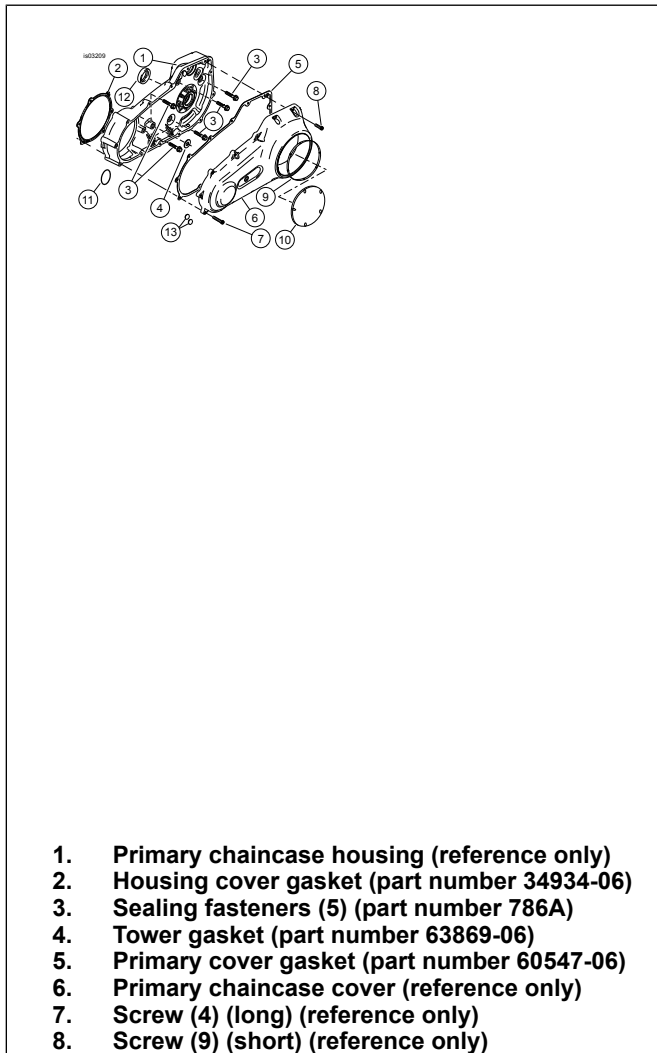
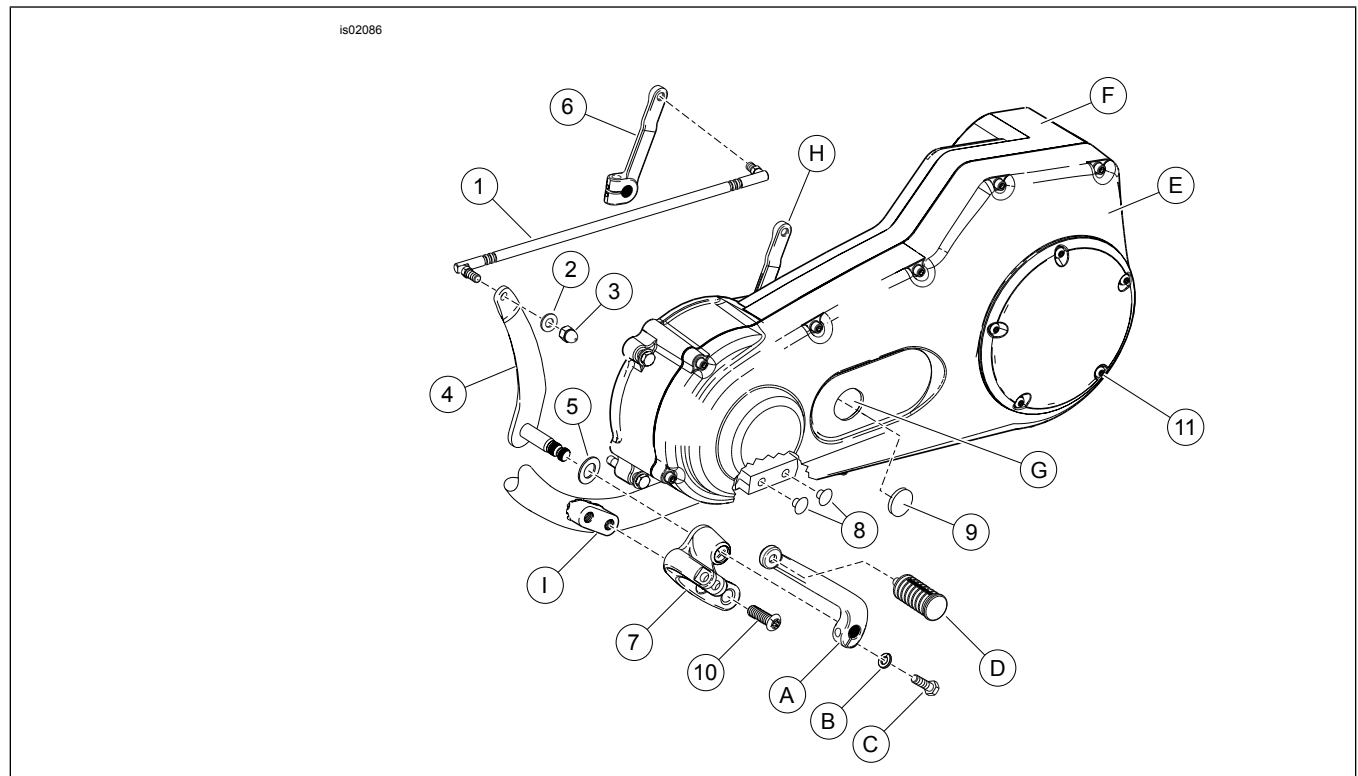
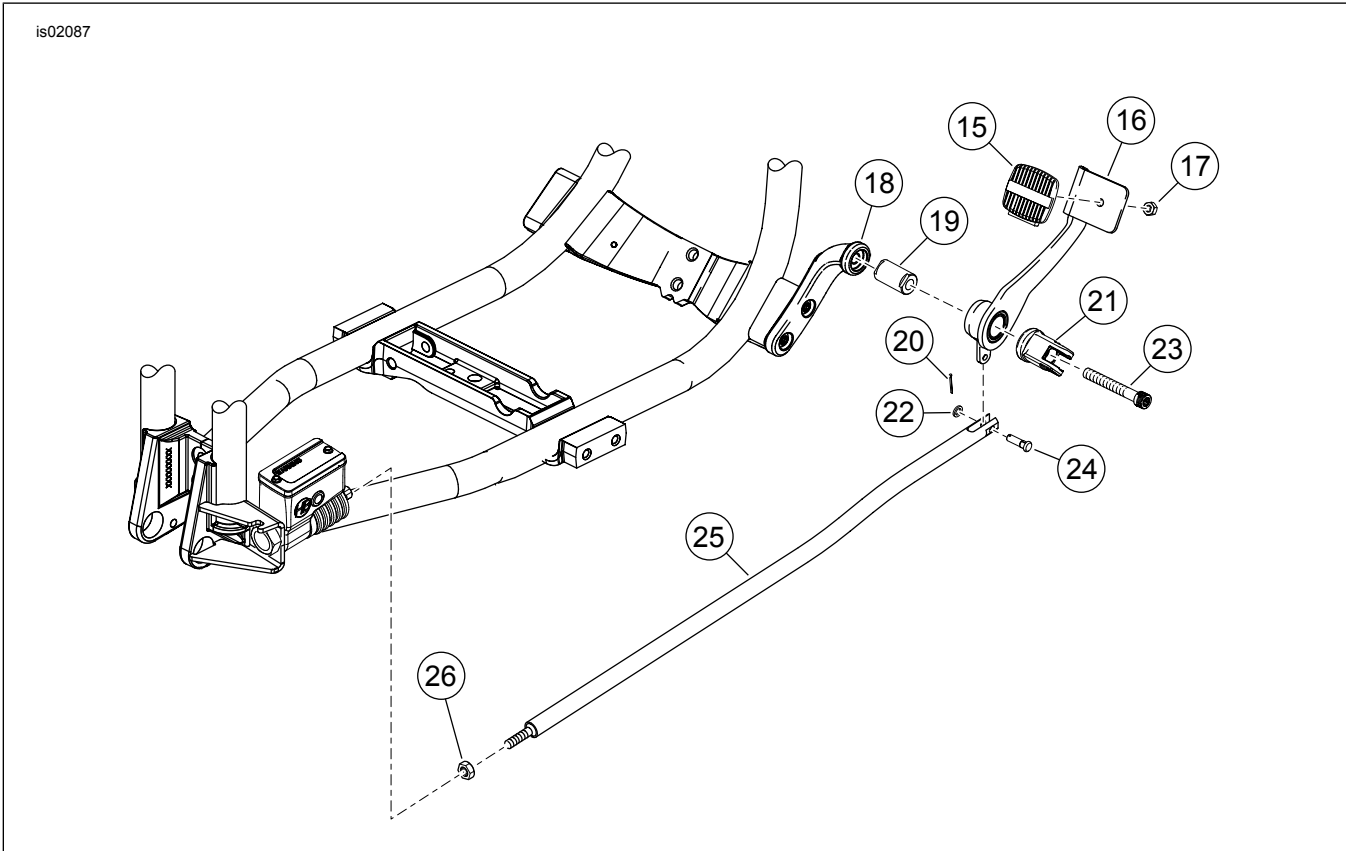

Figure 2. Primary Chaincase Cover and Housing Components
Figure 4. Service Parts: Dyna Forward Foot Control Kit
Figure 5. Service Parts: Dyna Forward Foot Controls Kit
See Figure 4 and Figure 5. The mounting brackets and clevis (7, 18 and 21) may also be purchased separately to upgrade the standard FXDWG to this chrome kit.
See Figure 4 and Table 1 and Figure 5 and Table 2.
2. See Figure 4. Remove the left-side rider footrest assembly. Save the footrest and fasteners for installation. Discard the remaining hardware.
3. From the kit, press hole plugs (8) into the screw holes on the frame where the stock footrest assembly was mounted.
4. Remove plugs from forward control frame mount (I) and discard.
5. Remove the shifter lever (A) and left-hand shifter peg (D). Save for future use.
6. See Figure 2. Remove the primary chaincase cover (6) and primary chaincase housing (1). Refer to your model motorcycles Service Manual for removal procedures.
- See Figure 4. Install a spring washer (5) on the shifter lever shaft (4). Coat the shaft with Loctite[®] Anti-Seize and slide the shaft into the shifter bracket (7). Install the shifter bracket onto the frame mounting holes using Torx[®] screws (10). Tighten the screws to 41–47 N·m (30–35 ft-lbs).
- Install the **new** shifter rod (1) onto the transmission shifter lever (6) and shifter lever (4). Tighten to 8–10 N·m (70–90 in-lbs).
- See Figure 2. Using the gaskets and O-rings from the kit, install the primary chaincase housing (1) and primary chaincase cover (6). Refer to your model motorcycles Service Manual for installation procedures.
- See Figure 5. Loosen the brake rod jam nut (26) at the rear brake master cylinder.